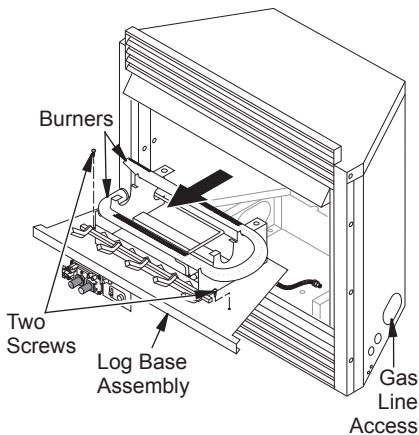

Figure 15 - Removing Log Base Assembly From Fireplace Insert
2. Remove screws that attach log base assembly to fireplace insert (see Figure 15, page 14). Carefully lift up log base assembly and remove from fireplace insert (see Figure 15, page 14).
- Route gas supply line through access opening of fireplace insert (see Figure 15).